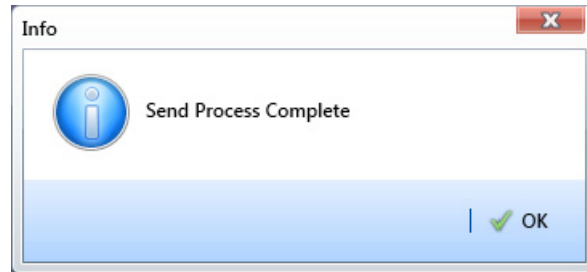

Figure 8-31. Send Process Complete
- 29** When a message displays confirming the send process is complete, click  **OK** to close the message (Figure 8-31). PCS Axis sends the survey file to the *PSData* folder on the Allegro.